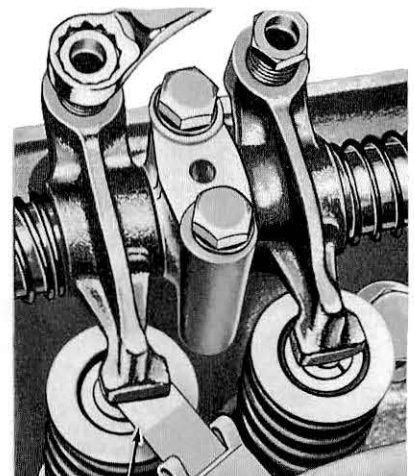

FIG. 21—Valve Lash Adjustment
With the engine idling, set the valve lash (Fig. 21) using a step-type feeler gauge only ("go" and "no go"). The final (hot) intake and exhaust valve lash specifications are listed in Table 7.
4. Adjust the intake and exhaust valve lash for No. 1 cylinder (Fig. 21). The valve lash setting is listed in Table 7. Use a step-type feeler gauge ("go" and "no go") to adjust the valves.